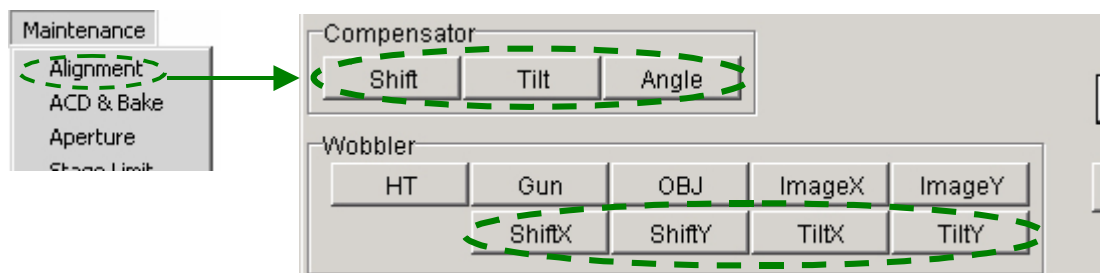

Fig. 5.26 Alignment Panel for Maintenance window (Deflection-coil adjustment using the circled buttons)
- ✍ When you turn the BRIGHTNESS (L1-⑥) knob slowly back and forth through the focus position, the electron beam spot is elliptical if astigmatism exists in the condenser lens.
- ◆ Select **Maintenance** from the **TEM Controller** menu bar and click on **Alignment** to open the **Alignment Panel for Maintenance** window (👉 Fig.5.26).
2. Focus the electron beam using the BRIGHTNESS knob (L1-⑥).
3. Press BRIGHT TILT (I1-⑤) or click on DEF Select **CLA** in the **Alignment Panel for Maintenance** window.
4. Center the electron beam using the SHIFT knobs (L1-⑧, R1-③).
5. Click on Compensator **Tilt** in the **Alignment Panel for Maintenance** window (☞ Fig.5.26).
7. Unify the split spot using the DEF/STIG X knob (L1-⑩).
- ✎ If the electron beam spot splits into two parts in the Y direction, click on Compensator **Angle** in the **Alignment Panel for Maintenance** window (☞ Fig.5.26); then unify the split spot using the DEF/STIG X knob (L1-⑩). After making sure that the spot is unified, click on Compensator **Angle** to turn it off.
9. If the electron beam moves off the screen center as you turn the BRIGHTNESS knob, center the beam using the SHIFT X and Y knobs (L1-⑧, R1-③) after pressing BRIGHT TILT (L1-⑤) or clicking on DEF Select **CLA** in the **Alignment Panel for Maintenance** window.
11. Unify the split spot using the DEF/STIG Y knob (L1-④).
- ✎ If the electron beam spot splits into two parts in the X direction, click on Compensator **Angle** in the **Alignment Panel for Maintenance** window (☞ Fig.5.26); then unify the split spot using the DEF/STIG Y knob (R1-③). After making sure that the spot is unified, click on Compensator **Angle** to turn it off.
12. If the electron beam moves off screen center as you rotate the BRIGHTNESS knob, center the beam using the SHIFT X and Y knobs (L1-⑧, R1-③) after pressing BRIGHT TILT (L1-⑤) or clicking on DEF Select **CLA** in the **Alignment Panel for Maintenance** window.
✍ If the electron spot splits into two parts in the Y direction, click on Compensator **Angle** in the **Alignment Panel for Maintenance** window (☞ Fig.5.26); then unify the split spot using the DEF/STIG X knob (L1-⑩). After making sure that the spot is unified, click on Compensator **Angle** to turn it off.
8. If the caustic spot moves off the screen center as you turn the BRIGHTNESS knob, center the beam using the DEF/STIG X and Y knobs (L1-⑩, R1-④) after pressing BRIGHT TILT (L1-⑤) or clicking on DEF Select **CLA** in the **Alignment Panel for Maintenance** window.
✍ If the electron spot splits into two parts in the X direction, click on Compensator **Angle** in the **Alignment Panel for Maintenance** window (☞ Fig.5.26); then unify the split spot using the DEF/STIG Y knob (R1-④). After making sure that the spot is unified, click on Compensator **Angle** to turn it off.
13. If the caustic spot moves off screen center as you turn the BRIGHTNESS knob, center caustic spot using the DEF/STIG X and Y knobs (L1-⑩, R1-④) after pressing BRIGHT TILT (L1-⑤) or clicking on DEF Select **CLA** in the **Alignment Panel for Maintenance** window.